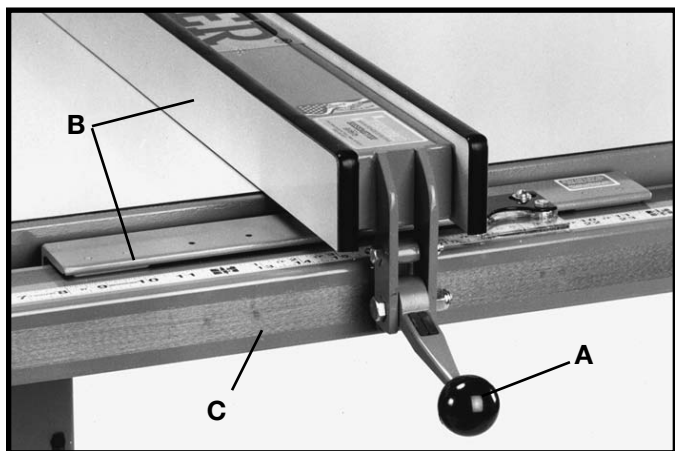
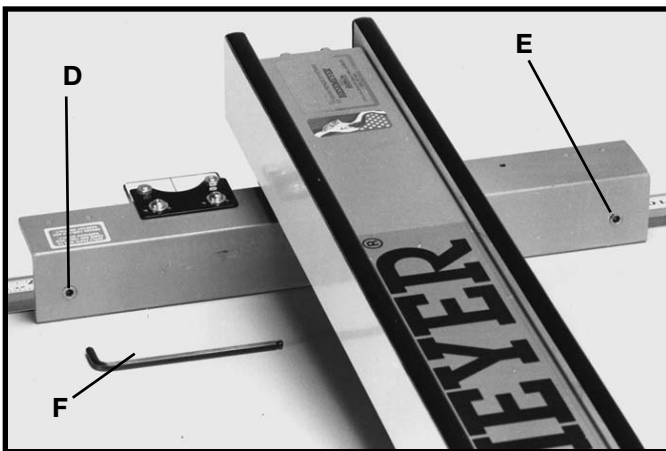

Fig. 147
Fig. 148
When the fence locking handle (A) is pushed to the down position, as shown in Fig. 147, the fence assembly (B) should be completely clamped to the guide tube (C). If the fence assembly (B) is not completely clamped to the guide tube (C) when the handle (A) is pushed down, as shown in Fig. 147, lift up handle (A) and raise fence assembly (B) up off the guide tube (C). Slightly tighten the two adjusting screws (D) and (E) Fig. 148, using the 3/16 allen wrench (F) not supplied. **Adjusting screws (D) and (E) Fig. 148, should be tightened an equal amount.** Replace fence onto the guide tube and re-check to see if the fence assembly (B) Fig. 147, is completely tightened to the guide tube (C) with the locking handle (A) pushed down. Adjust further if necessary. **IMPORTANT: AFTER ADJUSTING THE CLAMPING ACTION OF THE FENCE LOCKING HANDLE, CHECK TO SEE IF THE FENCE IS PARALLEL TO THE MITER GAGE SLOT AND ADJUST IF NECESSARY.**